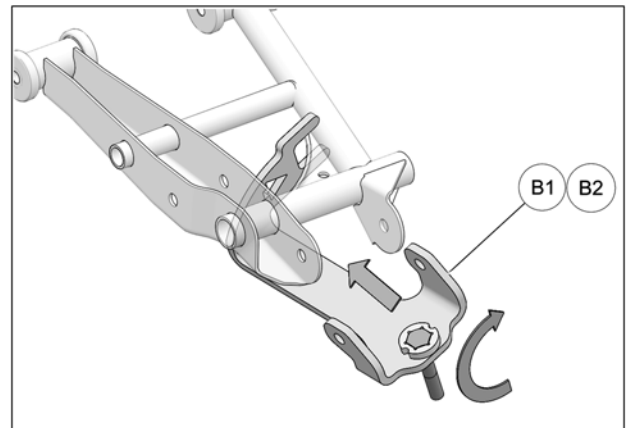

Fig. 8
7. Pivot and slide bracket (**B1-B2**) back to align holes in bracket with existing holes in suspension arm, as shown below in Fig. 8